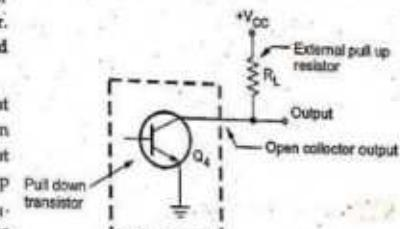

Fig. 3.3.10 Open collector output with pull-up resistor
- Because the collector of  $Q_4$  is open, a gate like this will not work properly until you connect an external pull-up resistor, as shown in Fig. 3.3.10.